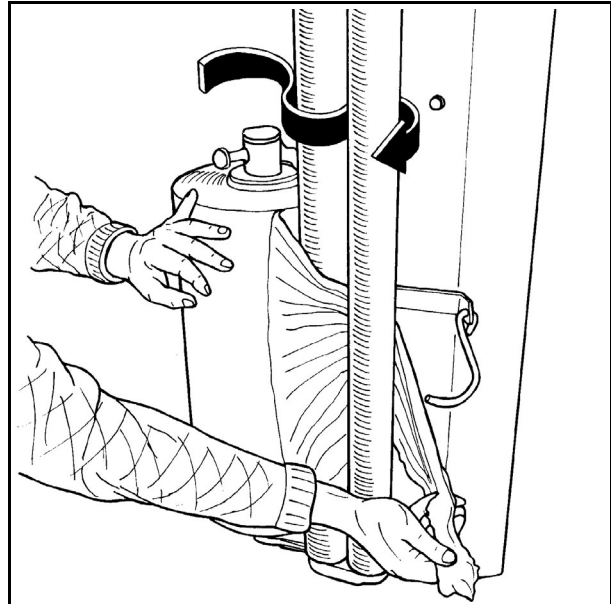

Fig. 4-2
- 4.3 Pull the film between the rollers on the prestretcher in the direction of the arrow. (See fig. 4-2).